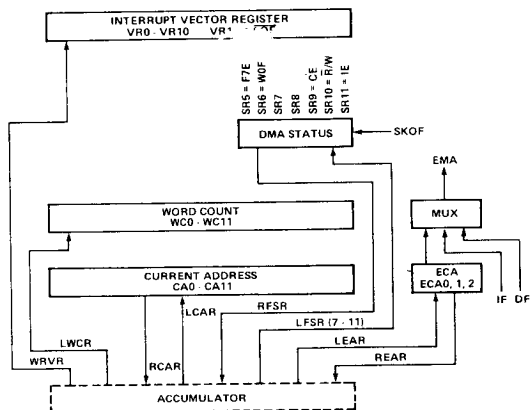

FIGURE 3: SDMA REGISTERS
A. Simultaneous DMA Channel (Figure 3)